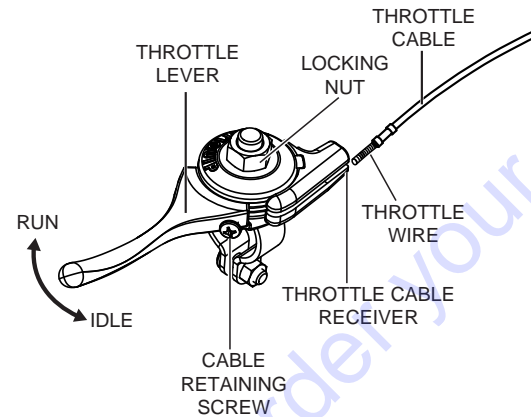

Figure 13. Adjusting Cable Tension
3. Place the throttle in the run position (Figure 13).
7. On the throttle lever, slightly loosen the locking nut and cable retaining screw as shown in Figure 13.
8. Ensure that the cable housing is seated in the throttle cable receiver as shown in Figure 13.
9. Route throttle wire past the cable retaining screw (Figure 13) approximately 1/2". To secure throttle wire, tighten the cable retaining screw.
10. Adjust cable tension by loosening or tightening the locking nut and cable retaining screw on the throttle lever (see Figure 13)